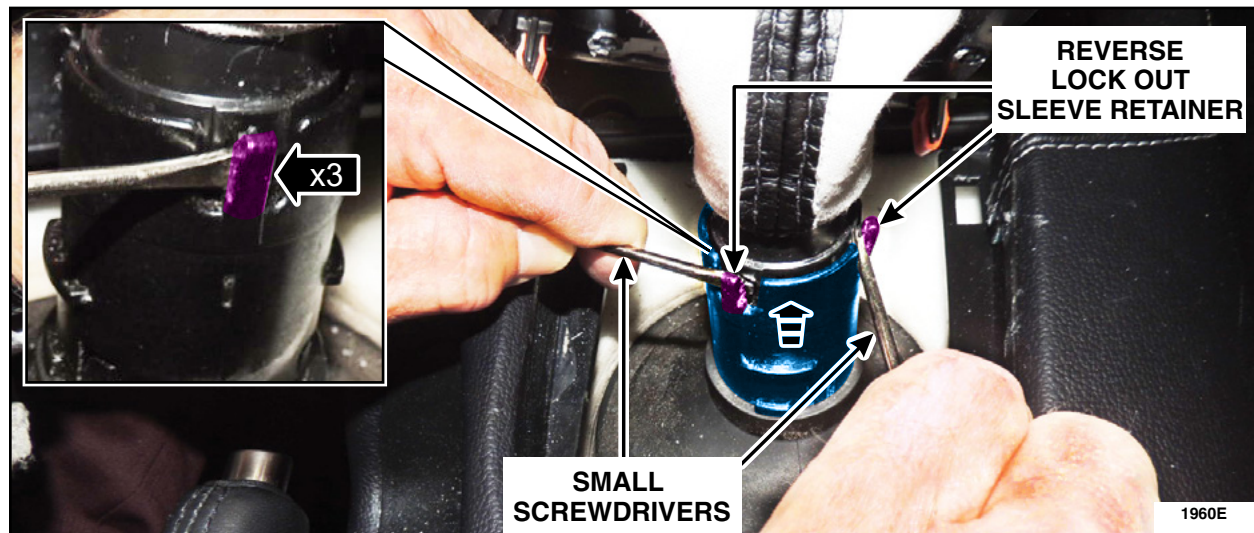

FIGURE 4
4. Using two small screwdrivers, insert the screwdrivers into two of the three retainer tabs of the reverse lockout sleeve. Pull the reverse lock out sleeve upwards to remove from the gearshift lever shaft. See Figure 4.